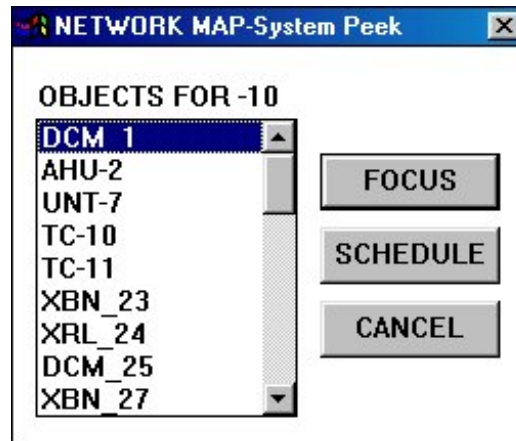

Figure 9-1: System Peek Dialog Box
1. Click the button to the left of the system containing the desired command. The Network Map-System Peek dialog box appears (Figure 9-1).
1. Click the button to the left of the system containing the desired object. The Network Map-System Peek dialog box appears (Figure 9-1).
1. Click the button to the left of the system containing the object. The Network Map-System Peek dialog box appears (Figure 9-1).